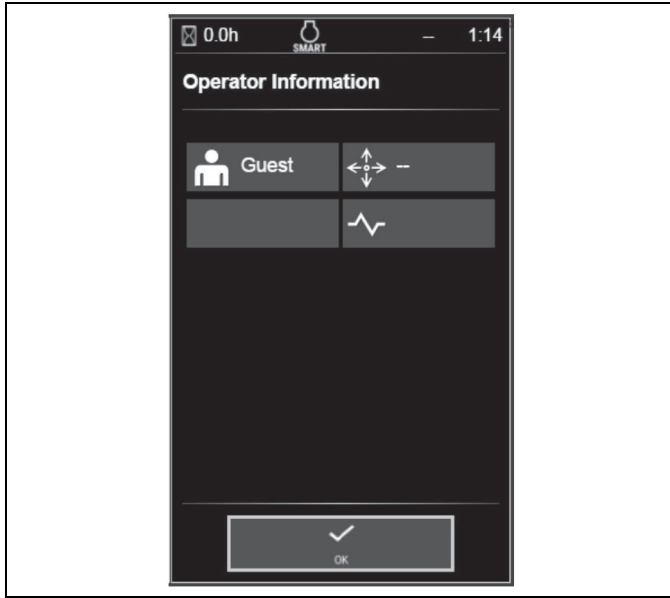

Figure 7-51
3. Select “Enter” to confirm the passcode. If a registered passcode is recognized, the operator information screen will appear on the display. If the MSS is not installed, the passcode screen will be bypassed automatically after 10 seconds. The operator will be logged in to the system as a guest. Refer to Figure 7-51.